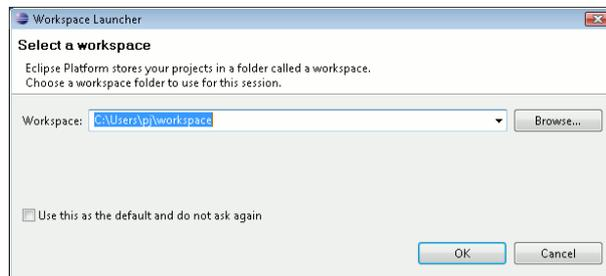
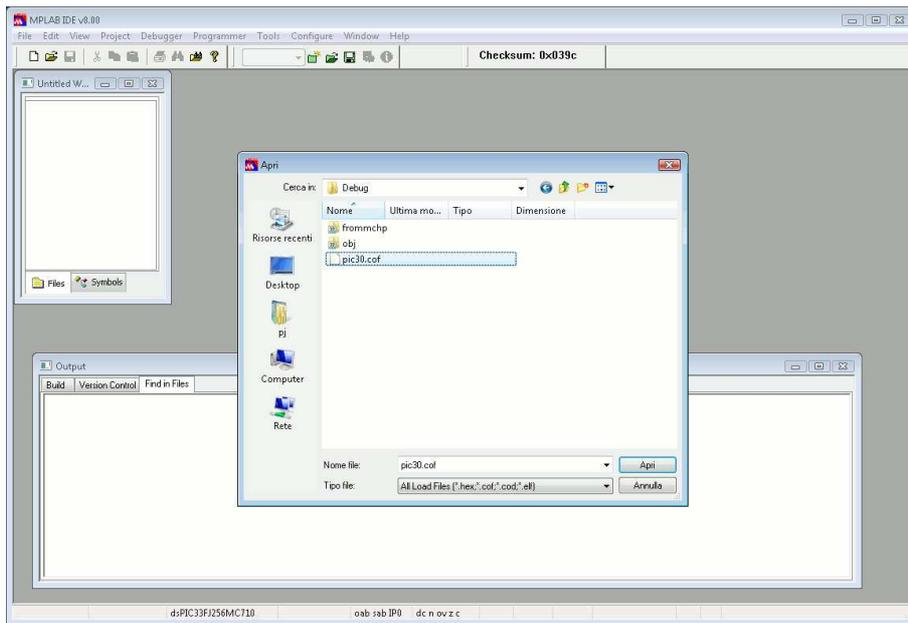

Figure 4.1: This screenshot shows the dialog box for the choice of the current workspace directory.
Figure 5.10: Select the COFF file you want to import.
2. A dialog box will appear, prompting to choose the right workspace (see Figure 4.1). Leave the default workpackage directory as it is, and proceed by pressing “OK”.
- A dialog box appear. Please select the pic30.cof file that has been produced by the compilation process in Eclipse, as shown in Figure 5.10. You can find that file inside the Eclipse workspace you selected at the beginning in Figure 4.1. In this example, the file is stored inside the directory `c:\Programmi\Evidence\eclipse\workspace\pic30_oo_mono\Debug`.